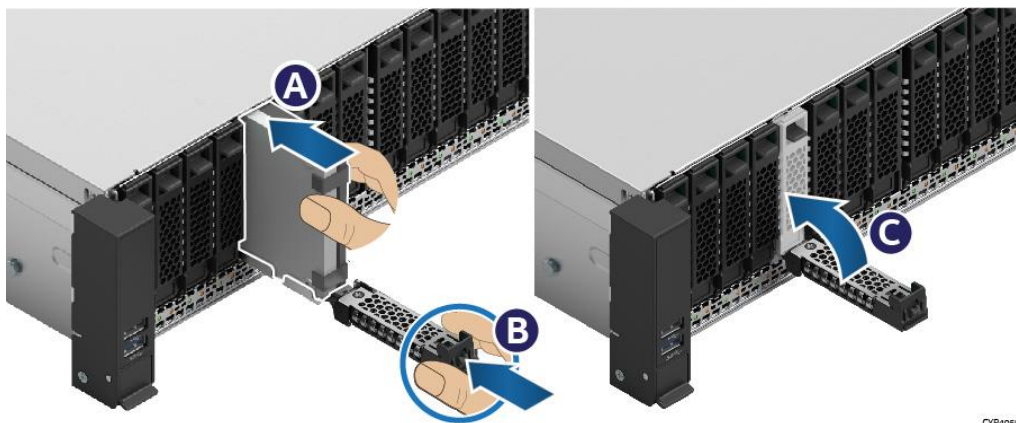

Figure 50. 2.5" 7 mm Drive Installation into 2.5" Drive Bay
3. Insert the assembled 7-mm thick drive (or non-assembled 15-mm thick drive) into the drive bay (see Letter A, Figure 50).
4. Slide forward until the drive contacts with the backplane (see Letter B, Figure 50).
5. Complete the drive installation by closing the drive extraction lever until it locks into place (see Letter C, Figure 50).